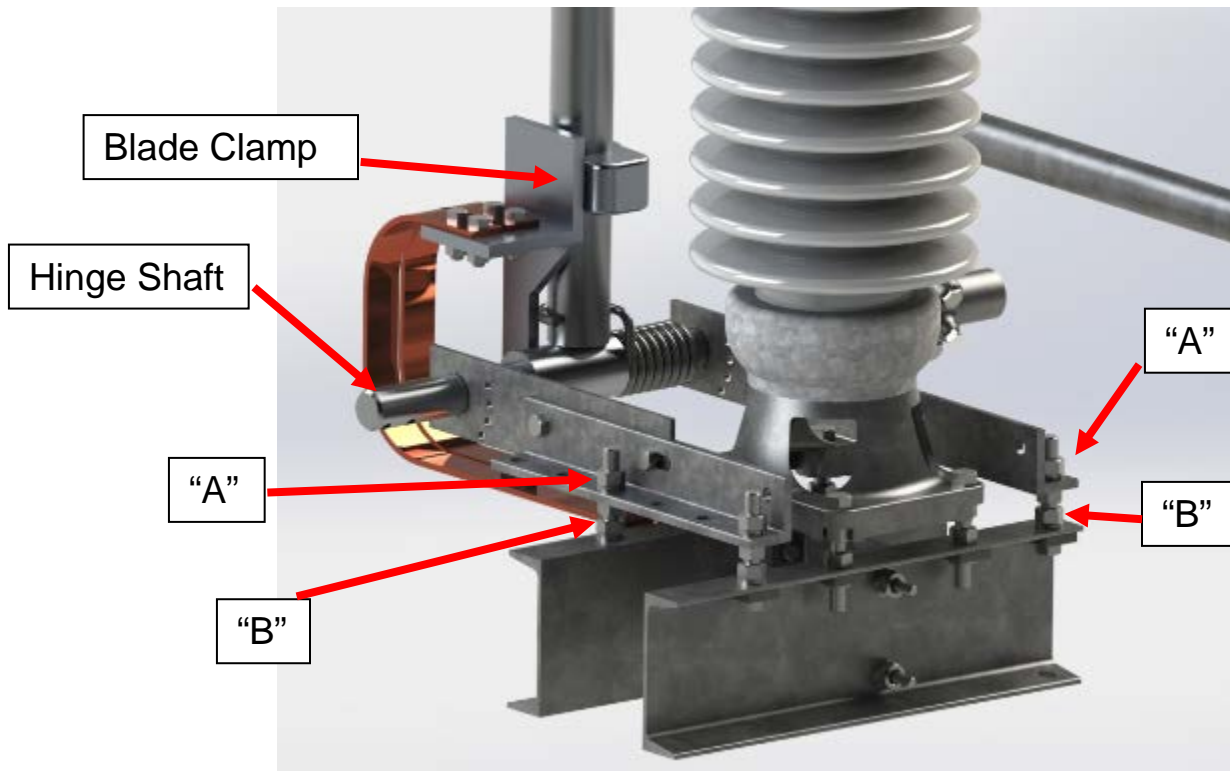

Figure 3: Hinge Adjustment
- 2.2. If adjustment is necessary, have a helper make adjustments to the mounting bracket and/or blade clamp correcting the issue. Refer to **Figure 3**.